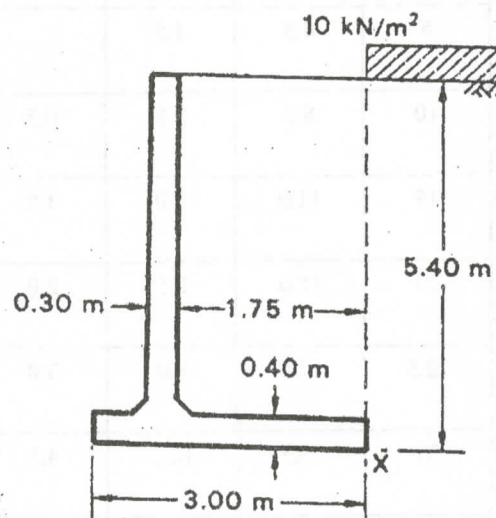

Figure 4
- Details of a cantilever retaining wall are shown in Figure 4, the water table being below the base of the wall. The unit weight of the backfill is 17kN/m^3 and a surcharge pressure of 10kN/m^2 acts on the surface. The shear strength of the backfill are $c'=0$ and $\phi'=36^\circ$. The angle of friction between the base and the foundation soil is 27° .
- draw the B.M.D for the given frame shown in figure 4. ($EI = \text{constant}$).
- draw the B.M.D for the given frame shown in figure 4. ($EI = \text{constant}$, $P = 4\text{t/m}$). If the support a is a movable support.